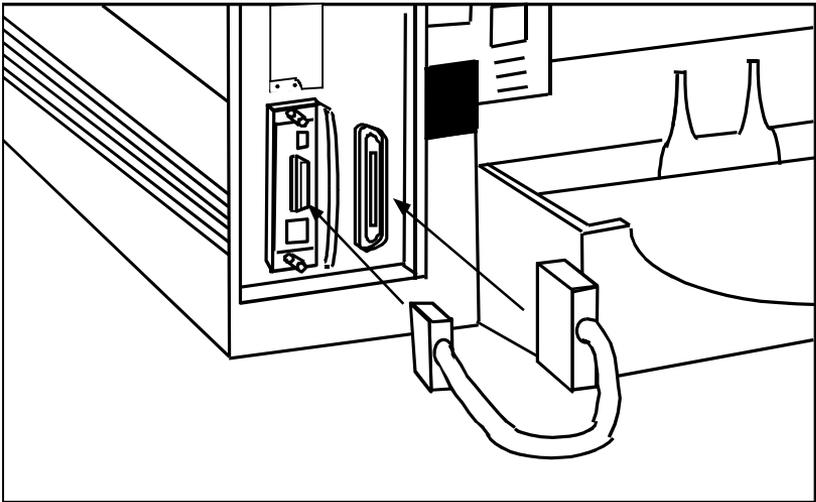

Figure 2-3
4. Connect the cable from the XJet 2000 to the printer's parallel port as shown in figure 2-3.